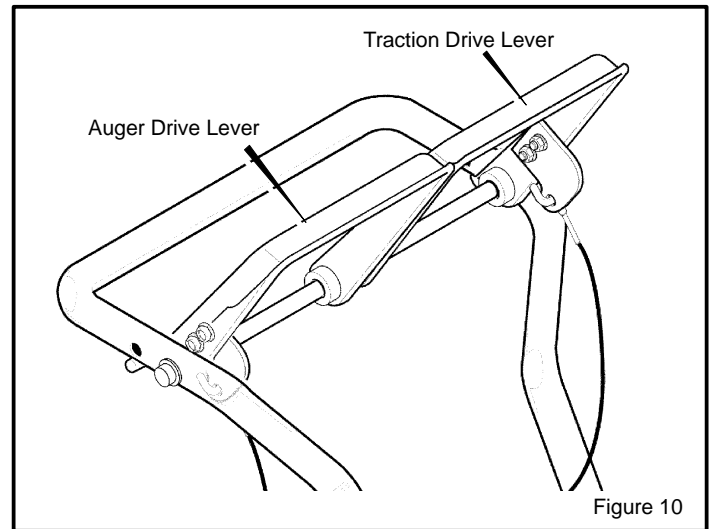

Figure 10
1. To stop throwing snow, release the **auger drive lever**. (see Figure 10).
3. Engage the **traction drive lever** (see Figure 10). As the snowthrower starts to move, maintain a firm hold on the handles and guide the snowthrower along the cutting path. Do not attempt to push the snowthrower.
1. Push down the **auger driver lever** (right hand). See Figure 10.